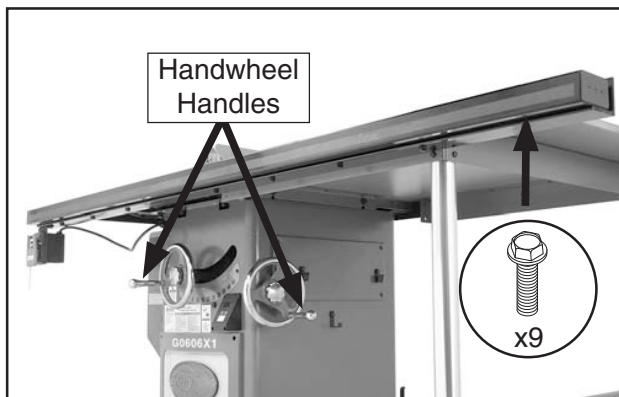

Figure 38. Fence tube mounted to front fence rail.
4. Secure the lower shelf brackets to the support legs and cabinet with (4) M6-1 x 12 hex bolts, (4) 6mm flat washers, and (2) M6-1 hex nuts.
- Place the 91³/₈" fence tube over the 91¹/₄" front rail, secure with (9) M8-1.25 x 12 flange bolts, as shown in **Figure 38**, then install the handwheel handles.